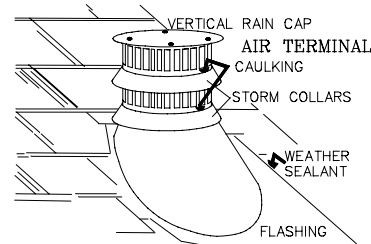

FIGURE 14
6. Apply a heavy bead of weatherproof caulking 2 inches above the flashing. Slide the storm collar around the air terminal and down to the caulking. Tighten to ensure that a weather-tight seal between the air terminal and the collar is achieved. Attach the other storm collar centered between the air intake and the air exhaust slots onto the air terminal. Tighten securely. **FIGURE 14.** Attach the vertical rain cap.